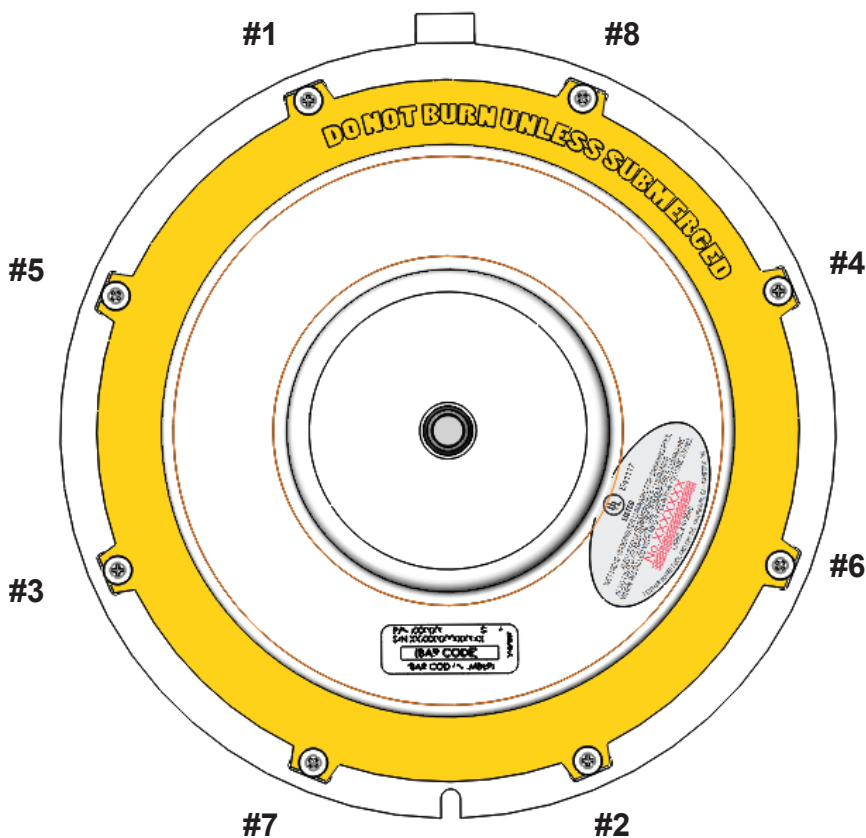

Figure 6.
6. Hand tighten all eight screws ensuring all screw heads are flush with the top of the clamp ring. Follow the pattern in consecutive order starting from #1 and ending on #8 shown below in Figure 6. BE CAREFUL NOT TO CROSS THREAD THE SCREWS.